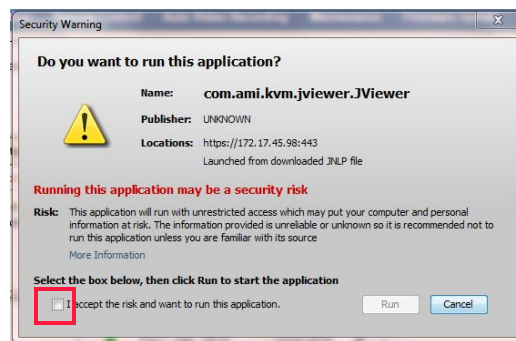

Figure 6.10 Security warning
6. Depending on the chosen browser, a security warning may appear as displayed in Figure 6.10, which asks if the user wants to run the JViewer application